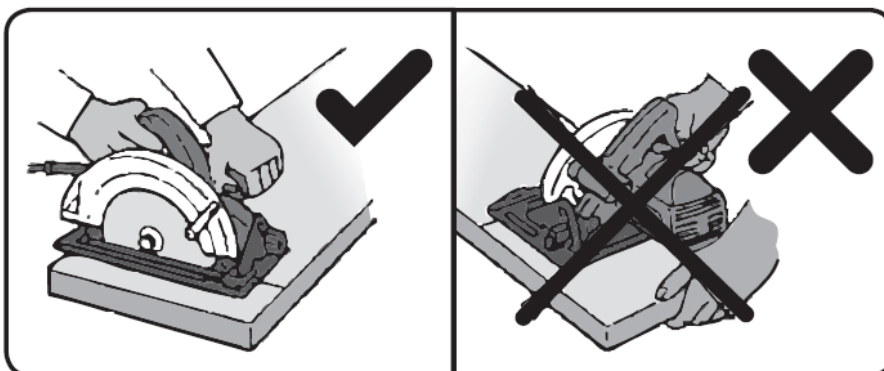

Fig. 7
2. Firmly grip the saw with both hands on the main and front handle (see Fig 7) and place the front part of the base plate on the cutting surface so that the blade does not touch the material being cut and can rotate freely. Never hold the saw with one hand.